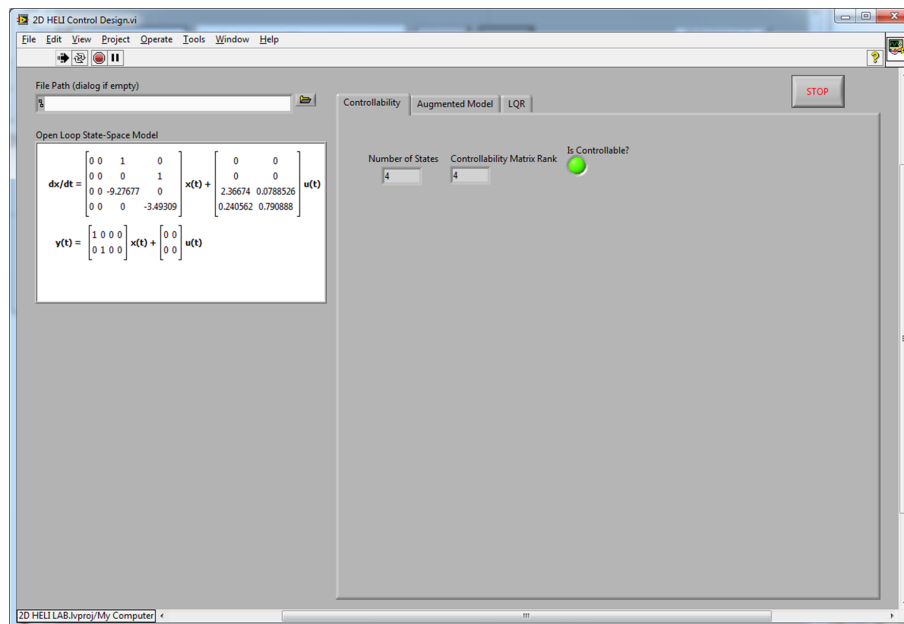

Figure 5.5: State-space model controllability
- Verify that the Controllability tab shows that the system has 4 states and that the controllability matrix rank is 4 and thus controllable, as shown in Figure 5.5.